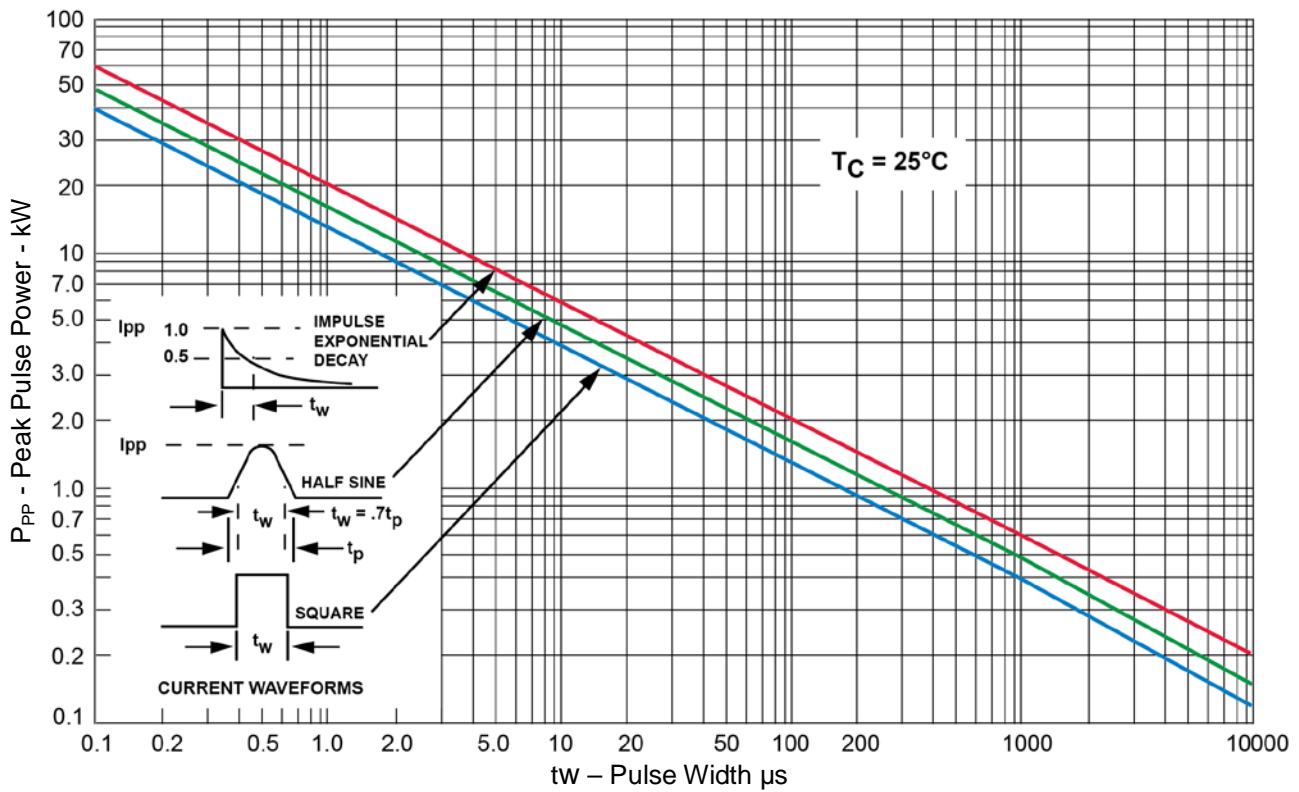

FIGURE 1
- With impulse repetition rate (duty factor) of 0.01 % or less (also Figure 1 and 4).